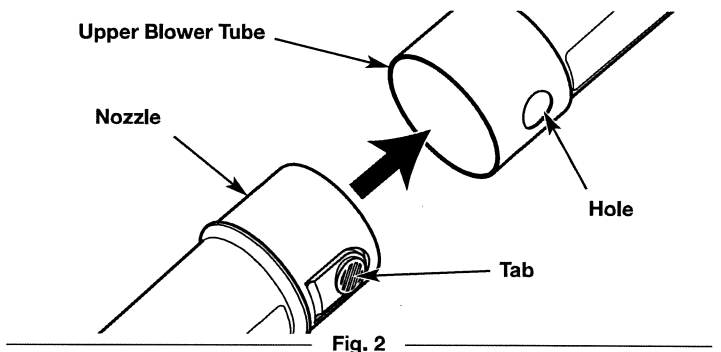

Fig. 2
2. Align the tab on the nozzle with the hole on the upper blower tube (Fig. 2).
3. Push the nozzle into the upper blower tube until the tab locks securely into the hole (Fig. 2).
2. Firmly press the tab on the nozzle inward and pull the nozzle out of the upper blower tube (Fig. 2).